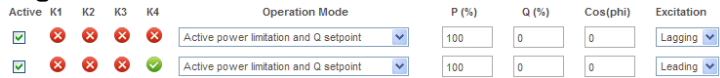

Fig. 7-18: Configuration of the value of long distance active power and the Q value
- **Active power limitation and Q set point:** If this mode is selected, the PMU only regulates the active power P(%) and the Q value according to received signals. Therefore, you only need to configure P(%) and the Q value, as shown in Fig. 7-18.